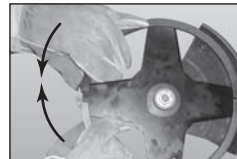

Fig. 6C
3. Refer to figure 6C and 6D, and assemble in the opposite way to cover the blades.